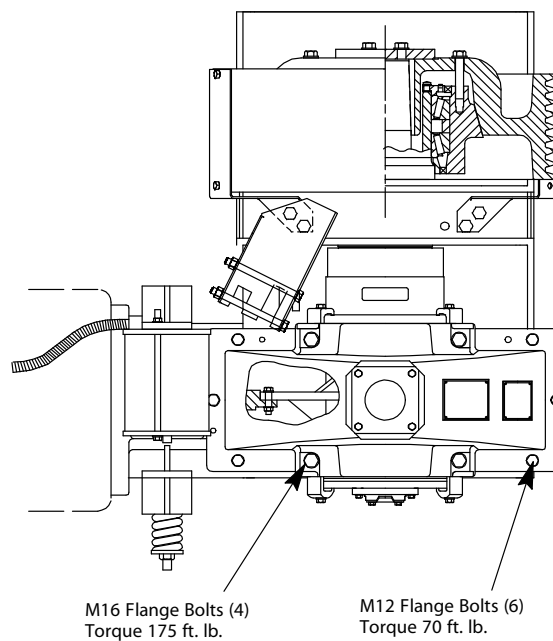

Figure 60 - Torques for Top Case Mounting Bolts
17. Tighten the top case mounting bolts to the specified torques. See Figure 60.